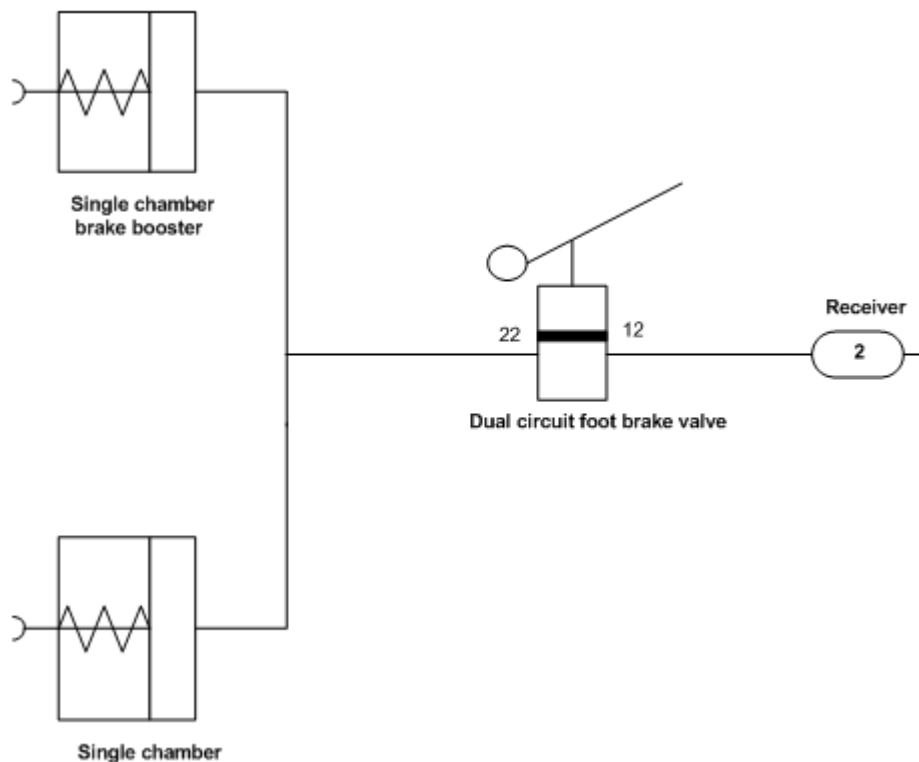

Fig. 14
- Front service brakes (Fig. 14)